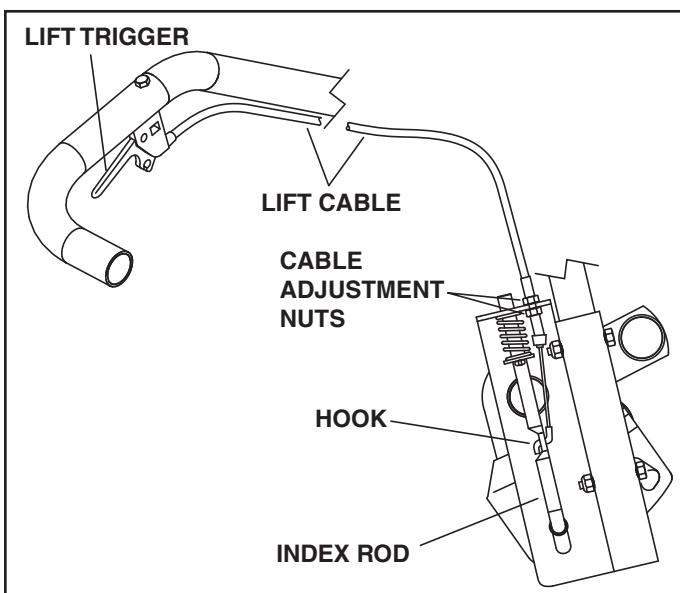

FIGURE 13
STEP 14: INSTALL LIFT CABLE (SEE FIGURE 13)
- Attach the lift cable to the lift handle using three cable ties (PP).